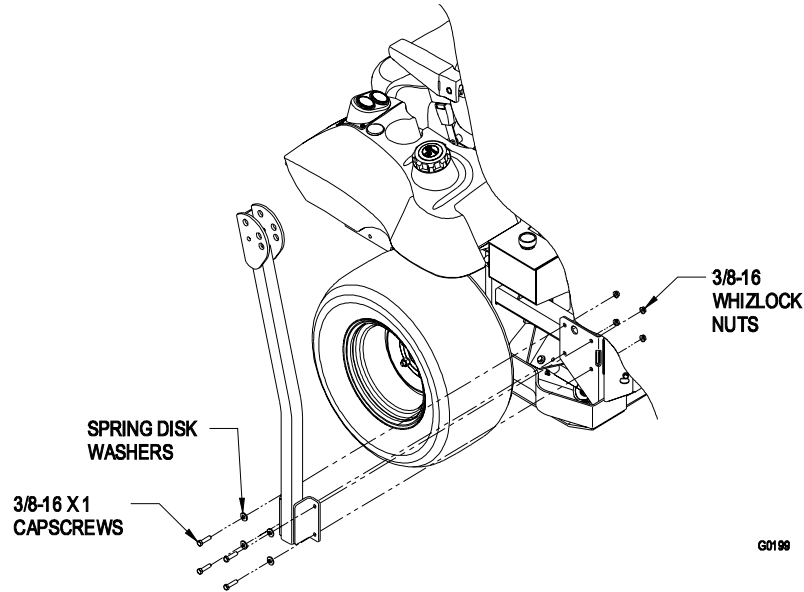

FIGURE 2
- b) Align lower roll bar tubes along wheel motor channels as shown in Figure 2.
- c) **LOOSELY** install the lower roll bar hardware (four 3/8-16 x 1 capscrews, four spring disk washers and four 3/8-16 whizlock nuts) from the bolt bag to the tubes on each side as shown in Figure 2.